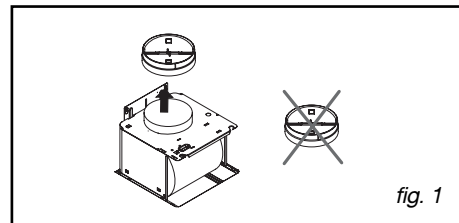

fig. 1
- Remove the back-flow valve (fig. 1).